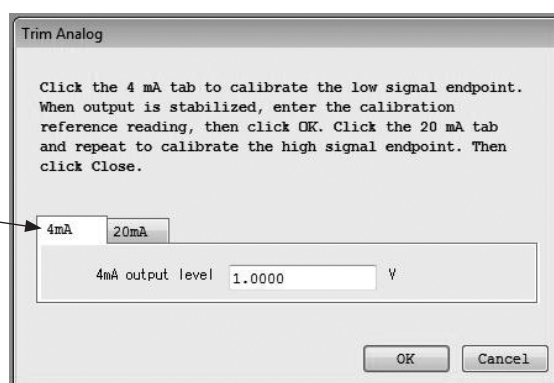

Fig. 3-74
- (9) The window shown in Fig. 3-74 will be displayed. Select whether 4mA adjustment or 20mA adjustment should be executed.
- (10) To execute 20mA adjustment, click 20mA on the window shown in Fig. 3-74 and execute adjustment so that the connected measuring instrument indicates 5V as in the same way as 4mA adjustment.